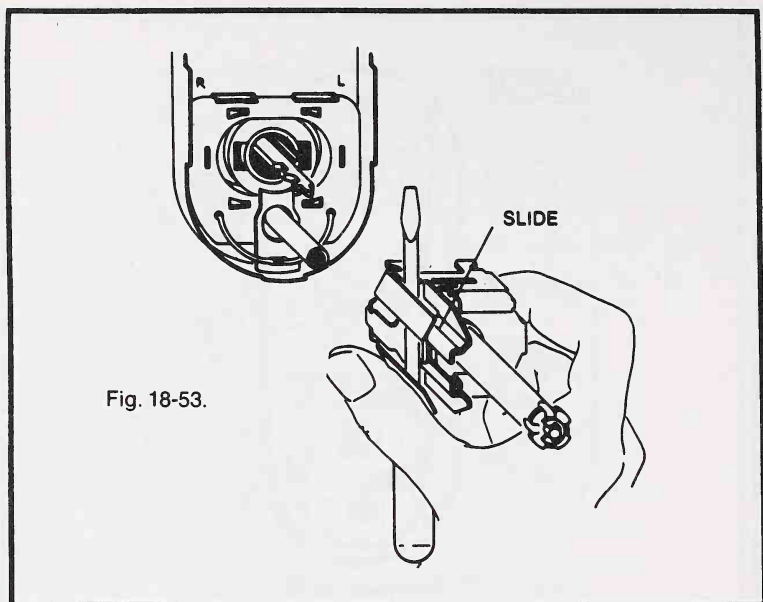

Fig. 18-53.
5. Compress the slide with a screwdriver and pull the assembly out (Fig. 18-53).